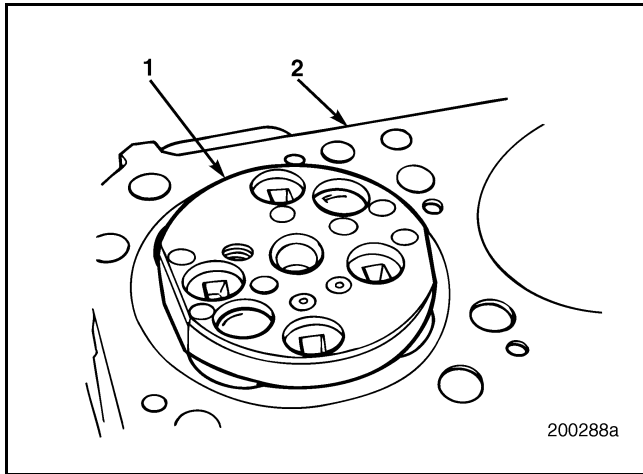

Figure 250 — Cutter Base Alignment
1. Place the cutter base on the cylinder head (Figure 250). Insert the hold-down capscrews into the appropriate mounting holes (per application) until the hold-down capscrews bottom out in the mounting holes.